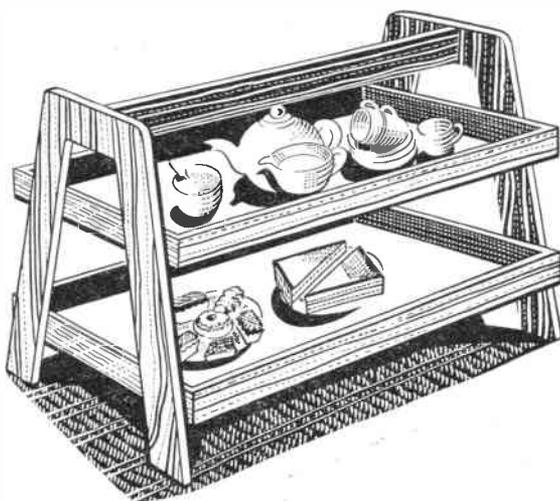

Fig. 1
The two trays are made first, to the dimensions in Fig. 1. The bottom (E) measures 25ins. by 12ins. and is cut from 1/4in. plywood or hardboard.
The sides (C) and ends (D) are only 1in. high and therefore need not be cut from anything thicker than 1/4in. wood. They are butted together at the corners and secured with pins and glue. If you intend to make a mitre joint the end pieces (D) must be longer than shown in Fig. 1.